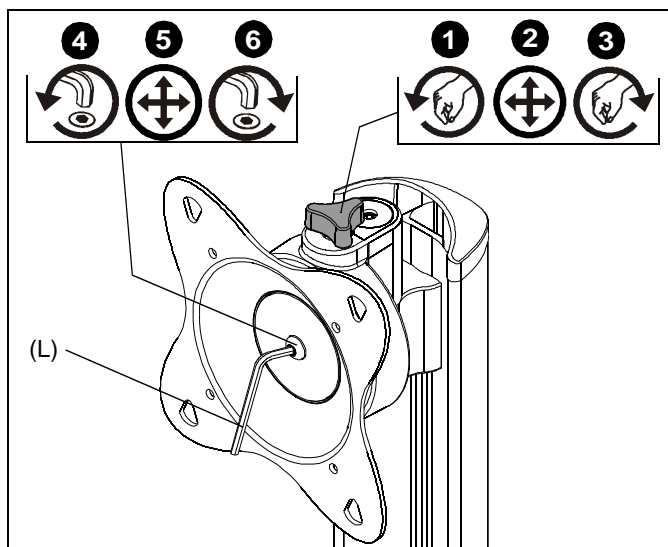

Figure 8
1. Turn the tension adjustment knob counter-clockwise to decrease tension. (See Figure 8)
4. Loosen the head assembly hex fastener using the 5/32" hex key (L) to decrease tension. (See Figure 8)